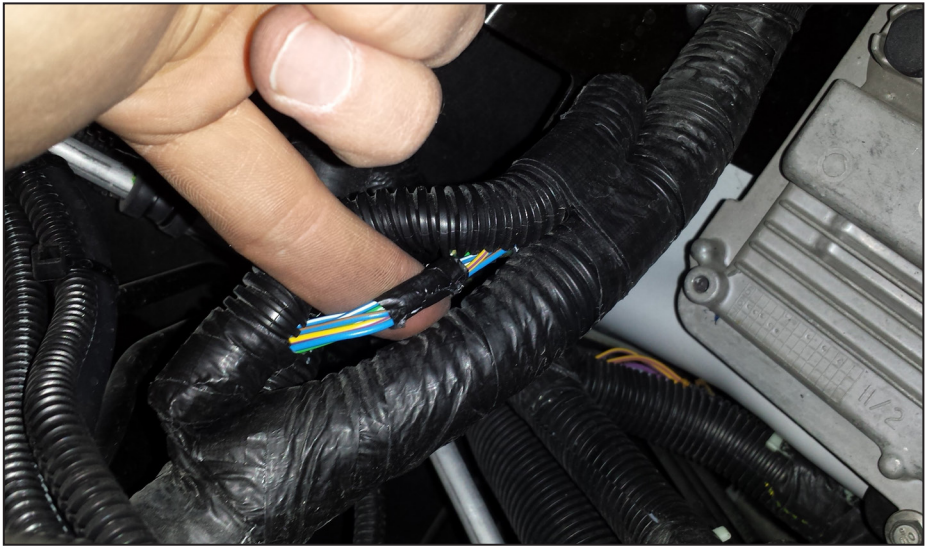

Figure 71 — OEM Blunt cut bundle (2016+ only)
- Locate the OEM blunt cut harness located near the PCM behind the driver side headlight (Figure 71).